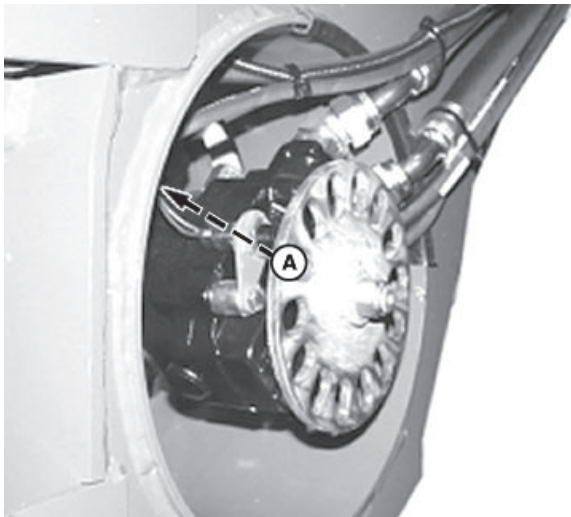

Figure 85. Internal Park Brakes
The internal park brakes (A) are located inside the wheel drives and are applied when there is a drop in hydraulic pressure when one of the following occurs (see Figure 85):